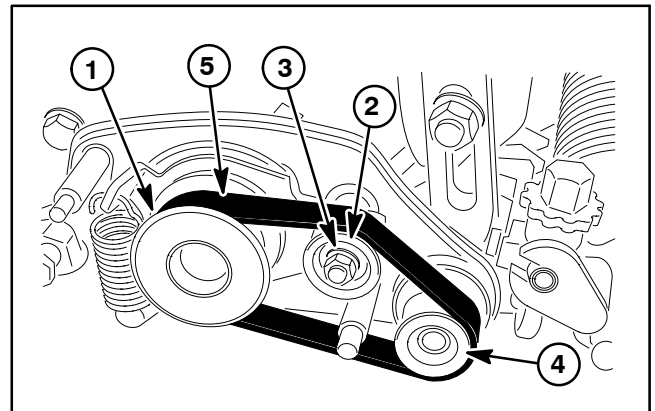

Figure 3
4. Pivot idler pulley by placing a 12mm wrench on pulley nut and rotating idler bracket to relax belt tension. Slip groomer drive belt off pulleys (Fig. 3). Carefully release idler bracket.
5. Install new drive belt to drive pulley, idler pulley and driven pulley observing correct belt routing (Fig. 3).